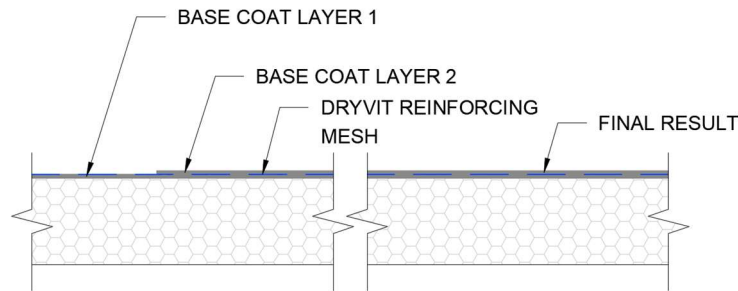

Fig. 32
- 3) Allow the base coat mixture to set up until firm to the touch. Trowel a second coat of the base coat mixture over the first coat to fully cover the reinforcing mesh – **Figure 32**. The result should be such that the reinforcing mesh is embedded in the middle of the base